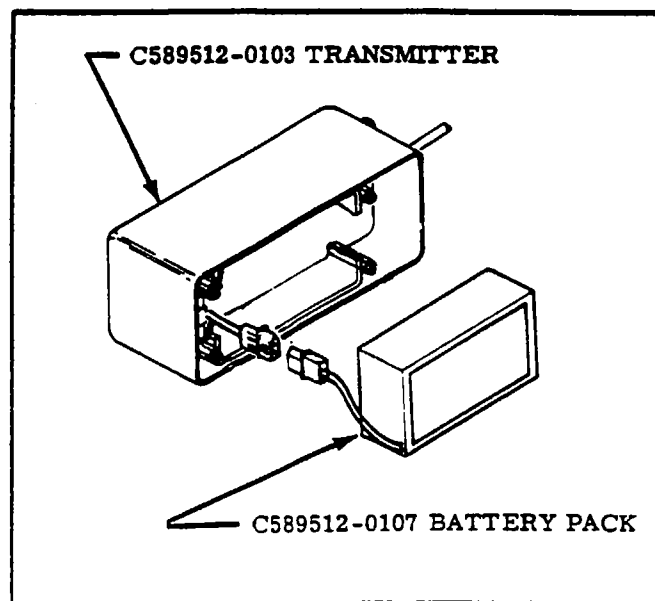

Figure 17-20. Battery Pack Installation.
17-133. REMOVAL AND INSTALLATION OF BATTERY PACK. (See figure 17-20.)
- d. Place new battery pack in the transmitter with four batteries as shown in the case in figure 17-20.
- e. Connect electrical connector as shown in figure 17-20.